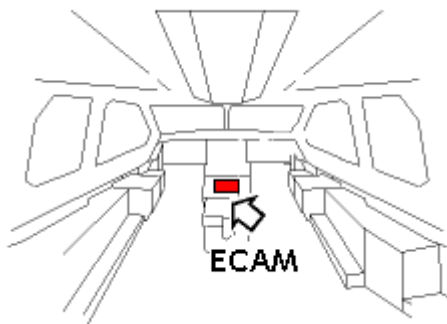

Figure 1. Cockpit Panel Location.
6.1.3 On the ECAM (*Figure 1*) control panel, push the EL/AC key, and then check that TR3 and TR4 are displayed. If any TR consumes less than 3 A, is shown in amber.